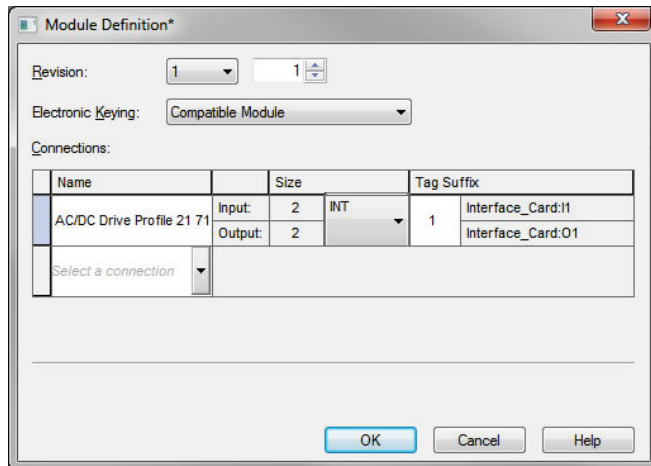

Figure 40: AOP AC/DC Drive Profile Module Definition
- 3) Configure the AC/DC Drive Profile connection. Refer to Figure 40.